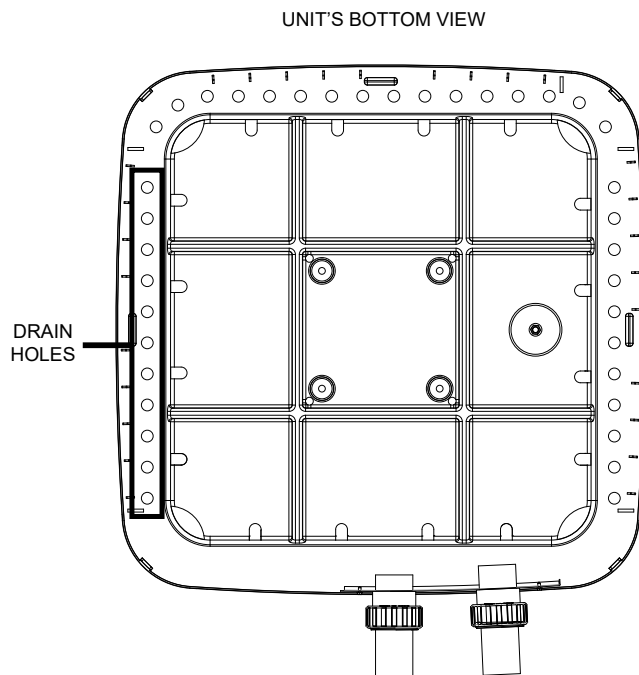

Figure 67. Condensate Drain Hole Locations
1. Routinely check to be sure the condensation drain holes in the base of the unit are not plugged with dirt or debris. See **Figure 67** for condensate drain hole locations.